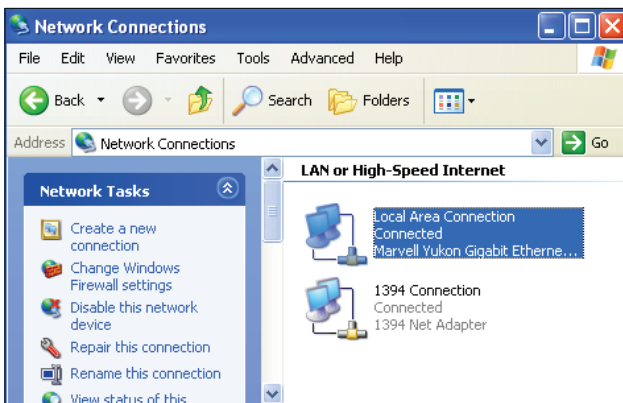

Figure 29: Network Connections Window
2. Double-click on the **Network Connections** icon. The *Network Connections Window* will appear (**Figure 29**).